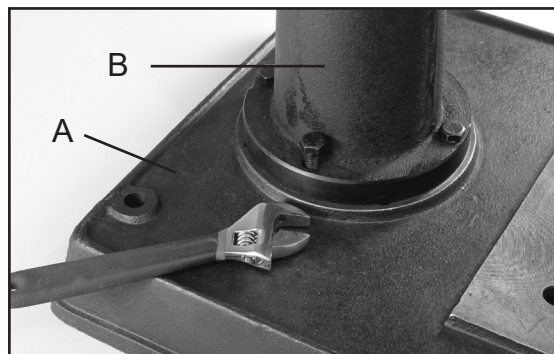

Figure 1
1. Place the base (A-Fig. 1) on a level floor where the machine will be used.
2. Attach the column (B-Fig.1) to the base (A-Fig. 1) using four M10x40 hex bolts. Tighten all four bolts.
3. Check the Hex Screw (#13A) on the side of the support column (B-Fig. 1), and the Hex Screw (#1A) on the Collar Rack (#2A) to make sure that they are secure.